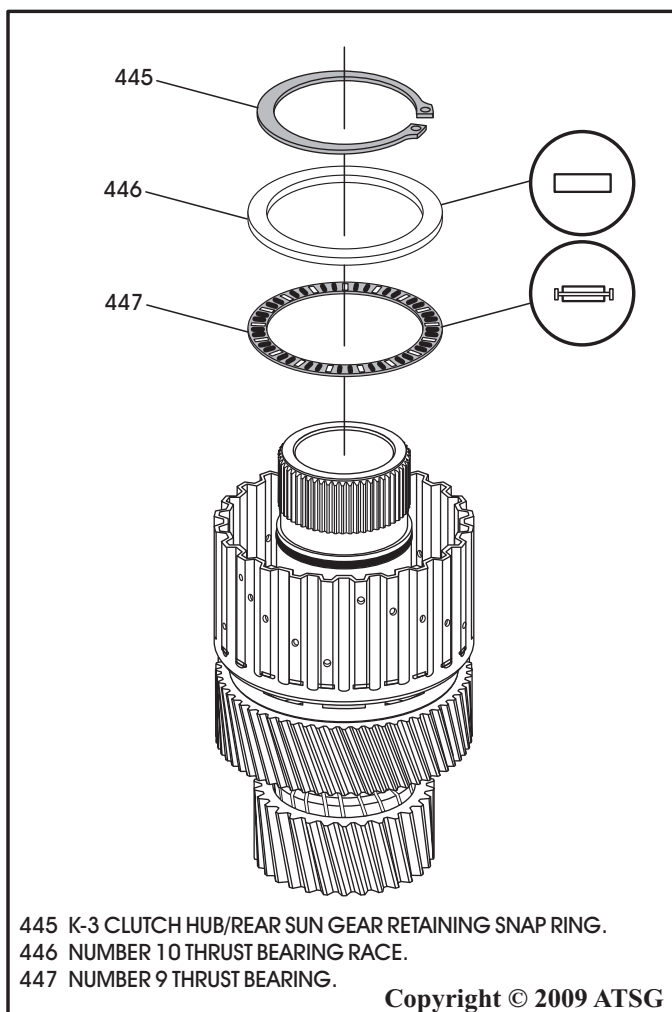

Figure 131
12. If you have the early bushing style, install the No. 9 thrust bearing, as shown in Figure 131.
13. Install the No. 10 thrust bearing race, as shown in Figure 131.
14. Install K-3 clutch hub/ rear sun gear retaining snap ring, as shown in Figure 131.